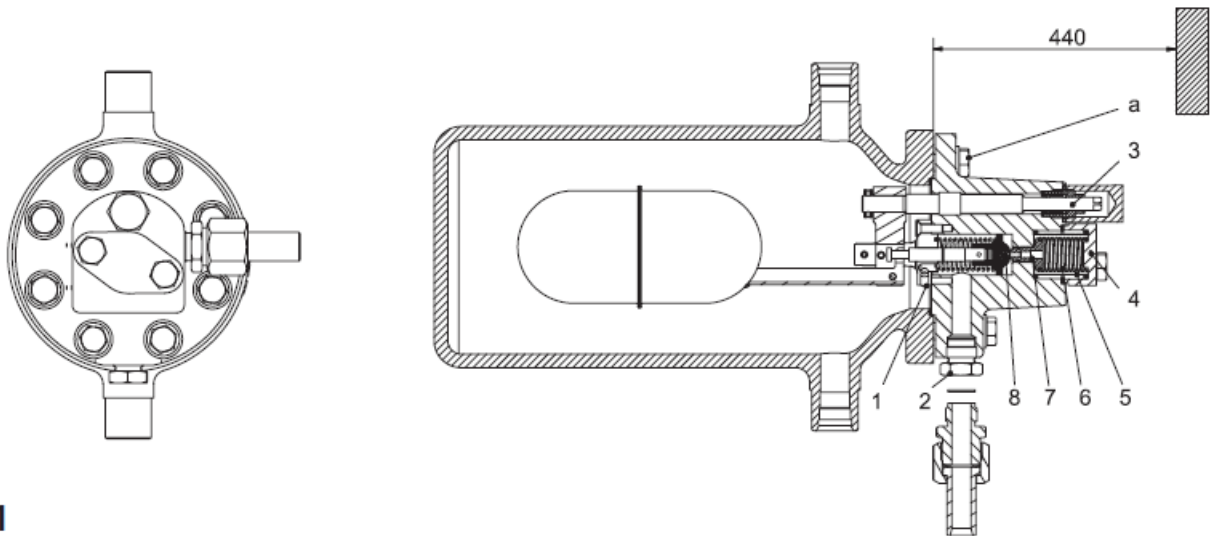

Fig.1
- 4-off M6 (remove pos. 1,
- Remove pos. 2 fig. 1, pos. 1, fig. 1 remains screwed